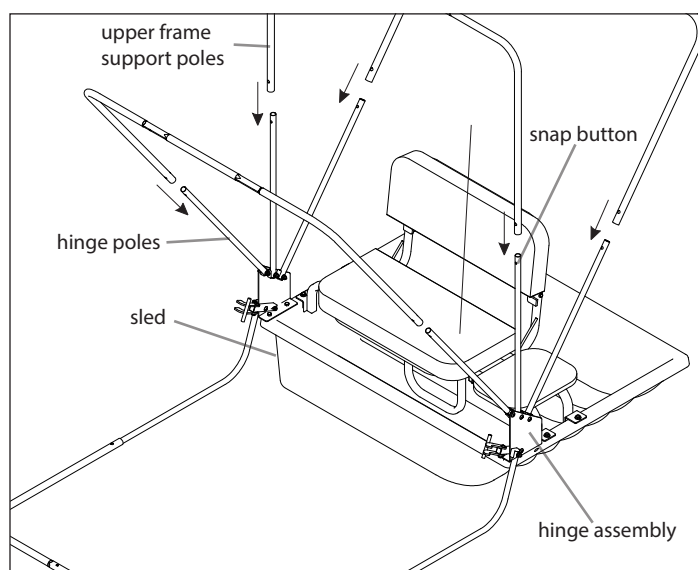

FIGURE 7
13. Insert the (3) hinge poles from each hinge into the (3) upper frame support poles. Push the snap button inward to allow upper frame support pole to slide over hinge poles and adjust to their lowest height (transport position). **SEE FIGURE 7**